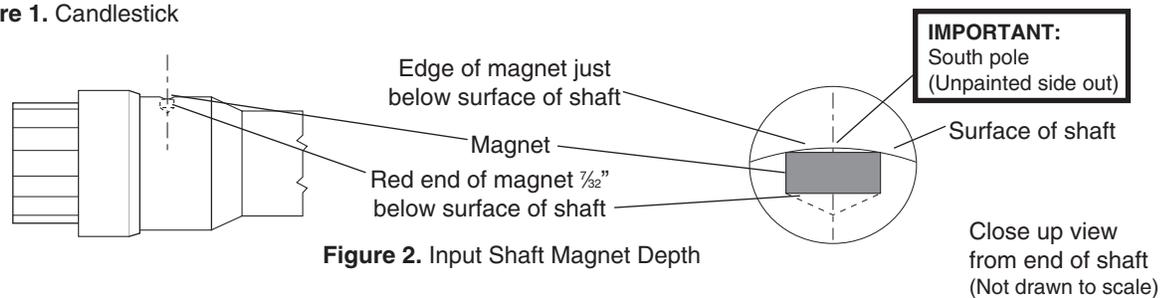

Figure 2. Input Shaft Magnet Depth
7. The input shaft magnet is installed next. Insert the input shaft in the candlestick to its operating depth. Use a marker in the sensor hole to mark the magnet mounting location on the shaft. Because of the hardness of the input shaft a special carbide drill bit ($\frac{1}{4}$ ") must be used to drill the magnet hole. Drill the hole so the bottom of the magnet sits approximately $\frac{7}{32}$ " (.219") below the surface of the shaft. This will put the edges of the magnet just below the surface of the shaft (Figure 2).